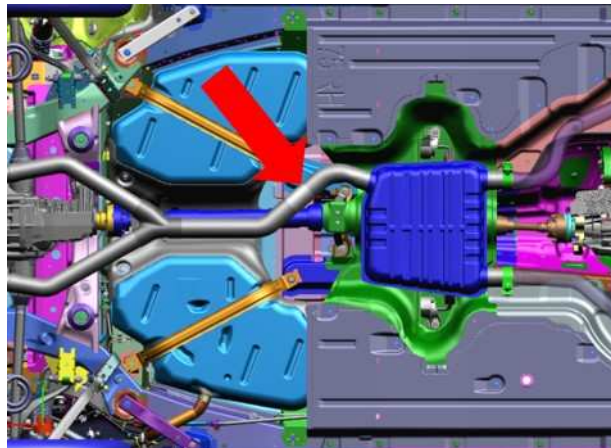

Fig. 17
5. Separate the cold end exhaust from the hot end (Fig. 17) . Manually push back the cold end or use a ratchet strap to pull the cold end rearward enough to separate it from the hot end exhaust. **Ensure the cold end exhaust remains supported with safety stands.**
13. Secure the cold end exhaust to the hot end (Fig. 17) .